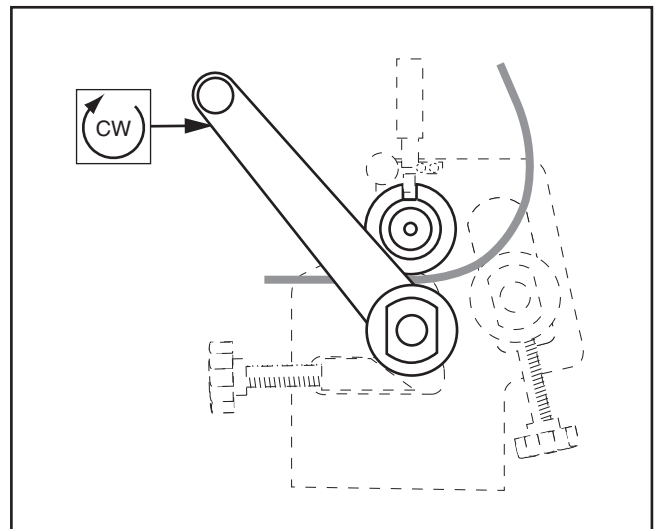

Figure 19. Feeding workpiece through machine.
- Turn crank handle clockwise to feed workpiece through machine. Continue turning until workpiece is completely through upper and lower rollers (see **Figure 19**).